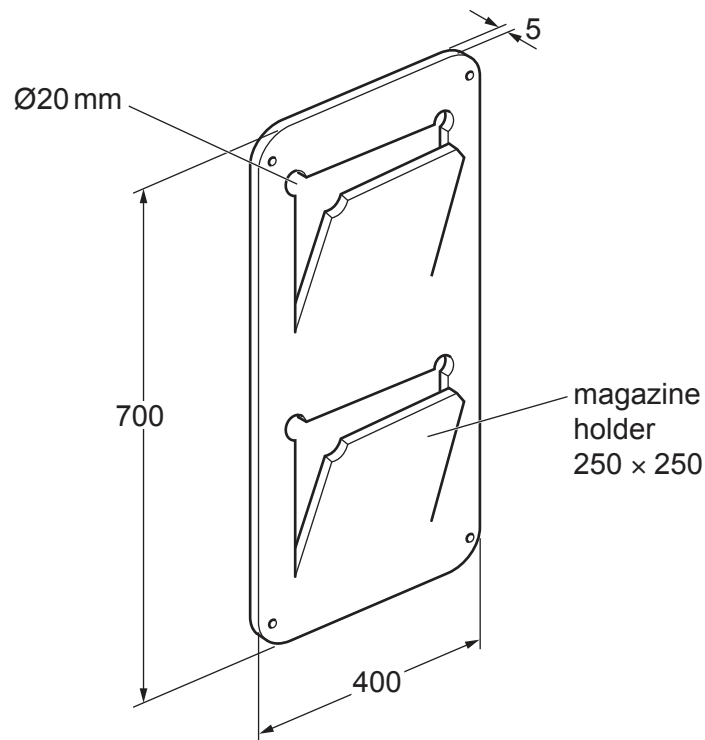

Fig. 3.1
- 3 Fig. 3.1 gives details about a wall mounted magazine rack that is to be made in a school workshop. The magazine rack will be made from one piece of acrylic.